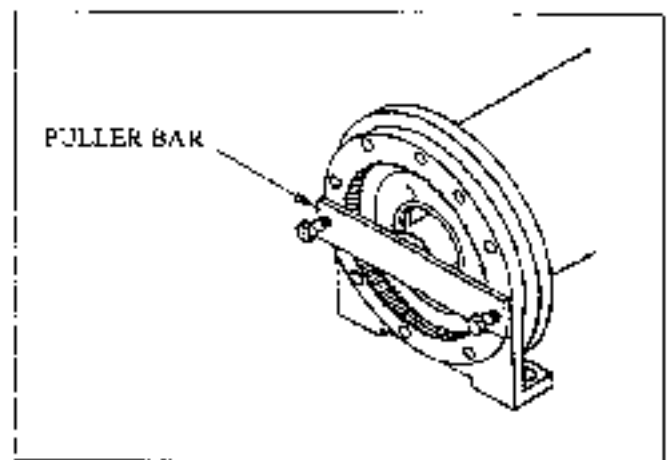

Figure 11
- (10) Block the drum so that the main drive mount can be removed. Install the tube spacer and necessary shims over the shaft behind the puller bar. Using two capscrews as shown in Figure 11, remove the main drive mount by turning the capscrews equally into the tapped holes.